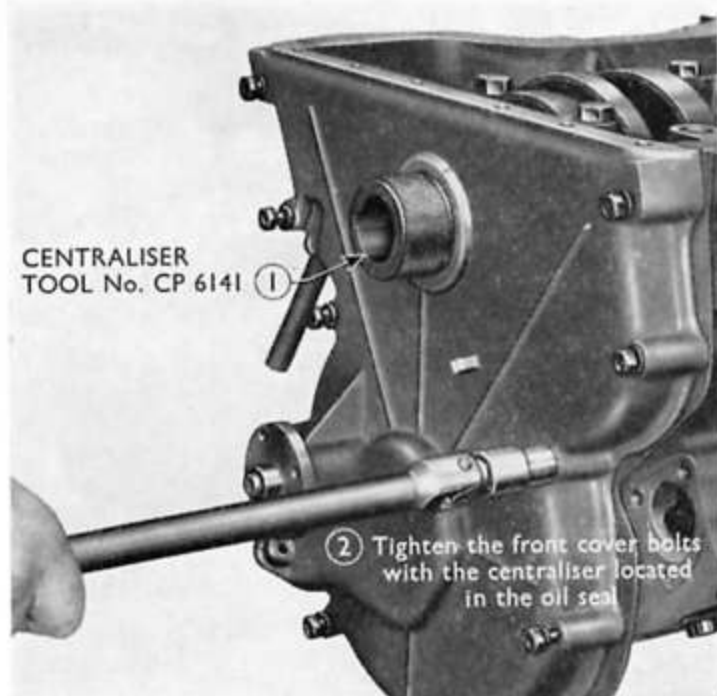

Fig. 22
18. **Fit the front cover.** Remove the oil seal, and fit a new seal, using remover/replacer Tool No. CP.6176, ensuring that the seal is fitted with the lip towards the inside of the cover. Fit the cover, centralising the oil seal about the crankshaft with centraliser Tool No. CP.6141 (see Fig. 22).